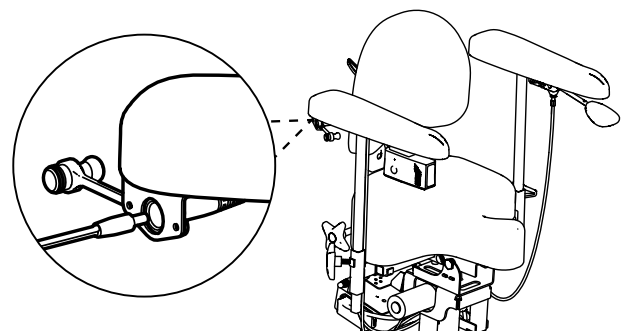

Figure 2.6. Connecting the plug to the charging socket under the armrest.
1. Inset the plug into the charging outlet (see Figure 2.6). The charging socket is normally located at the rear edge of the left armrest, but can also be located under the seat, for example.